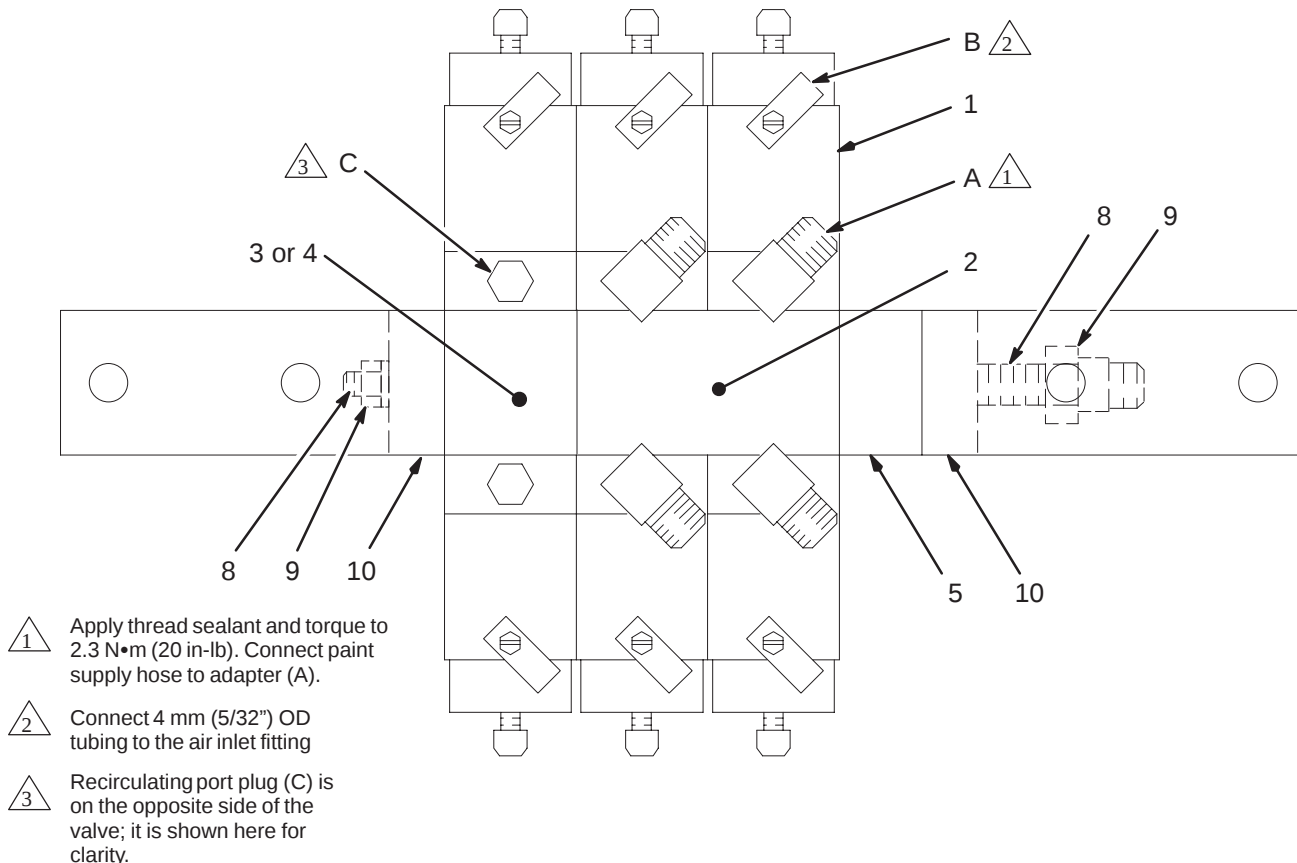

Fig. 1
7. Connect a 4 mm (5/32 in.) OD tube to each piston air inlet fitting (B) by pushing the tube into the special quick disconnect of the fitting. See Fig. 1. See **Accessories**, on page 5, to order the tubing.
8. See Fig. 1. Install a suitable adapter (A) in the 1/8 npt fluid inlet of each valve. Apply thread sealant to the adapter and torque to 2.3 N•m (20 in-lb). Connect the paint supply hose to the adapter (A).
9. Connect the paint hoses from the gun to the outlet block (5). The threads on the outlet block are 1/4-18.6 compound thread, which fits both 1/4-18 npsm or 1/4-19 BSP female connectors.
10. If you are recirculating the paint, remove the recirculating plug (C) from the valve and connect the recirculating line to the 1/8 npt(f) port, using a suitable adapter. Use sealant on the adapter and torque to 2.3 N•m (20 in-lb).